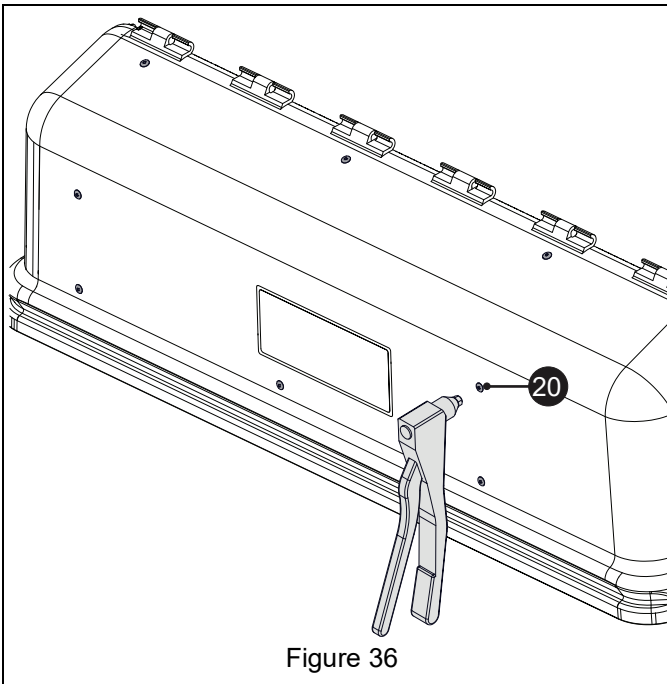

Figure 36
21. Secure rear housing guard to rear door with eight pop rivets (item 20). See Figure 36.